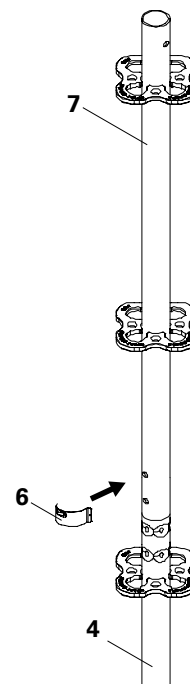

Fig. A2.9a
4. Tightly connect Standards and Base Standards using Locking Pins \varnothing 48/57 (6). (Fig. A2.9a/A2.9b)